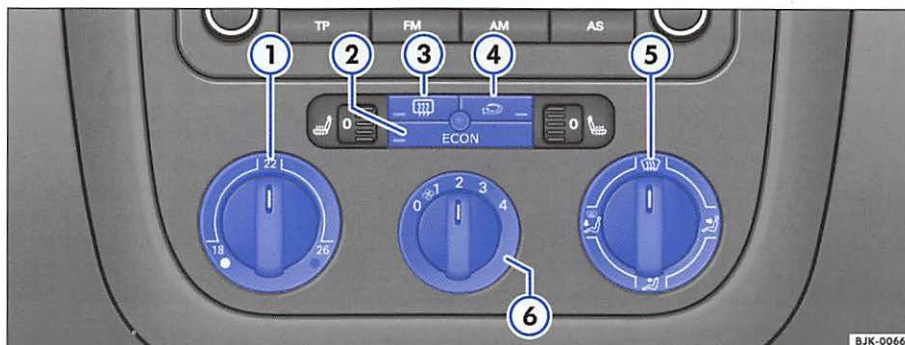

Fig. 67 In the center console: Climatic controls
- Using the controls ⇒fig. 67 ①, ⑤ and ⑥ you can set the temperature, air distribution and the fan speed.
- To switch a function on or off, press the appropriate button ② to ④. When a function is switched on a light in the button illuminates.
- ① Temperature ⇒page 82
- ② **ECON** button or AC button – cooling system on/off.
- ③ Button rear window defogger – The heating switches off automatically approximately 10 minutes after it is switched on. It can also be switched off by pushing the switch again.
- ④ Button – air recirculation mode ⇒page 83
- ⑤ Air distribution control ⇒page 82
- ⑥ Fan – The fan has four different speeds. The fan should always be set at the lowest speed when driving slowly.